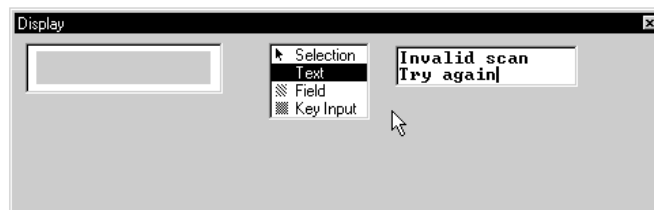

Figure 4-27 Display Window - Second Line of Text Entered
29. Type **Try again** on the second line (Figure 4-27).